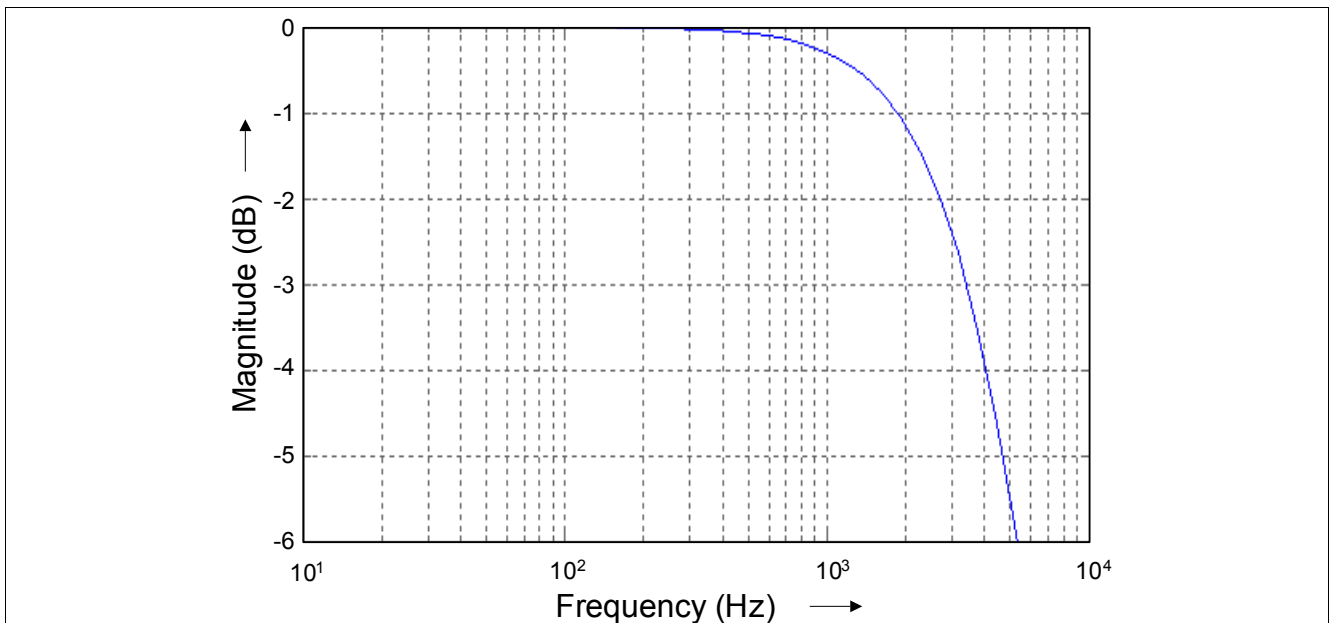

Figure 7-2 DAC Input Filter (Magnitude Plot)
7) More information, see Figure 7-2 “DAC Input Filter \(Magnitude Plot\)” on Page 16.